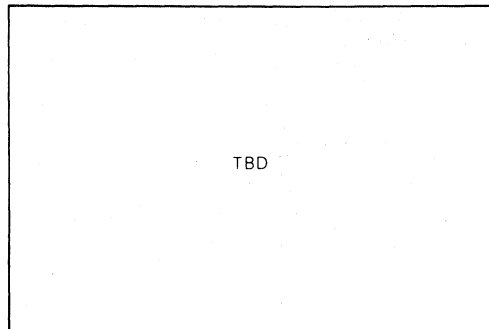

Figure 2-2. Typical Frequency vs Resistance For RC Oscillator Option Only
2.1.6.2 RC. If the RC oscillator option is selected, then a resistor is connected to the oscillator pins as shown in Figure 2-1(d). The relationship between R and f_{OSC} is shown in Figure 2-2.